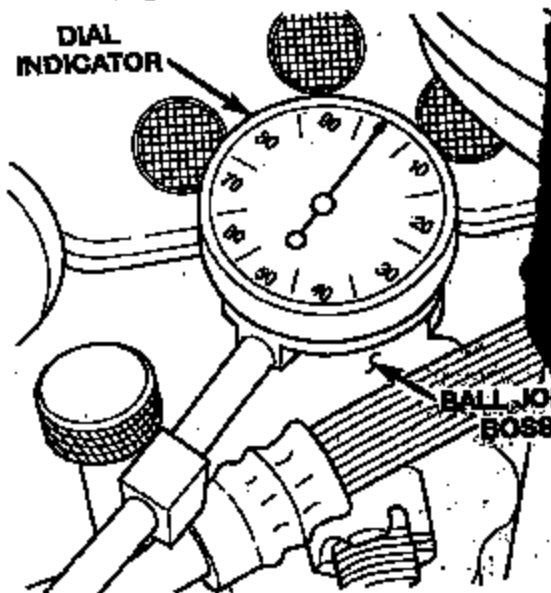

Fig. 3 Upper Ball Joint Boss
(2) Mount a dial indicator solidly on the upper suspension arm.
(3) Position the indicator plunger against the side of the upper ball joint boss of the knuckle (Fig. 3).